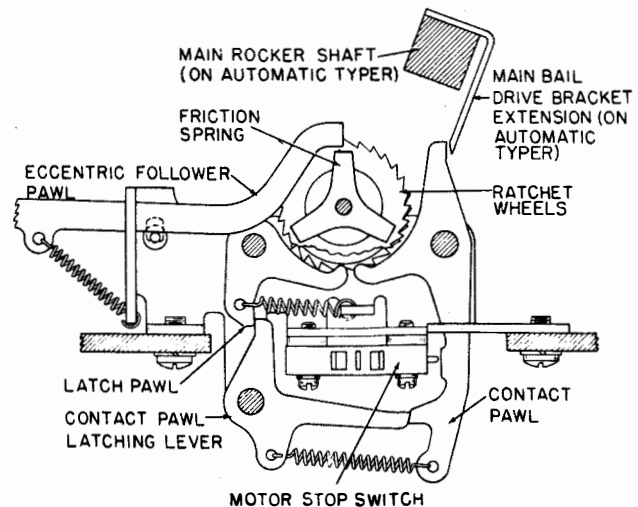

Figure 2-30. Time Delay Mechanism
l. **TIME DELAY MECHANISM.**—As shown in paragraph 6.c. of this section the electrical motor control mechanism in the Power Distribution Panel must receive an electrical pulse to stop the AC Motor. This pulse is supplied by the time delay mechanism on the Base or Keyboard which contains two ratchet wheels—one with 27 teeth, and one with 28 teeth. The reciprocating eccentric follower pawl, powered by the intermediate shaft, drives the ratchet wheels one tooth at a time (figure 2-30). Therefore, the ratchet wheel with 27 teeth turns a little faster than the one with 28 teeth. The